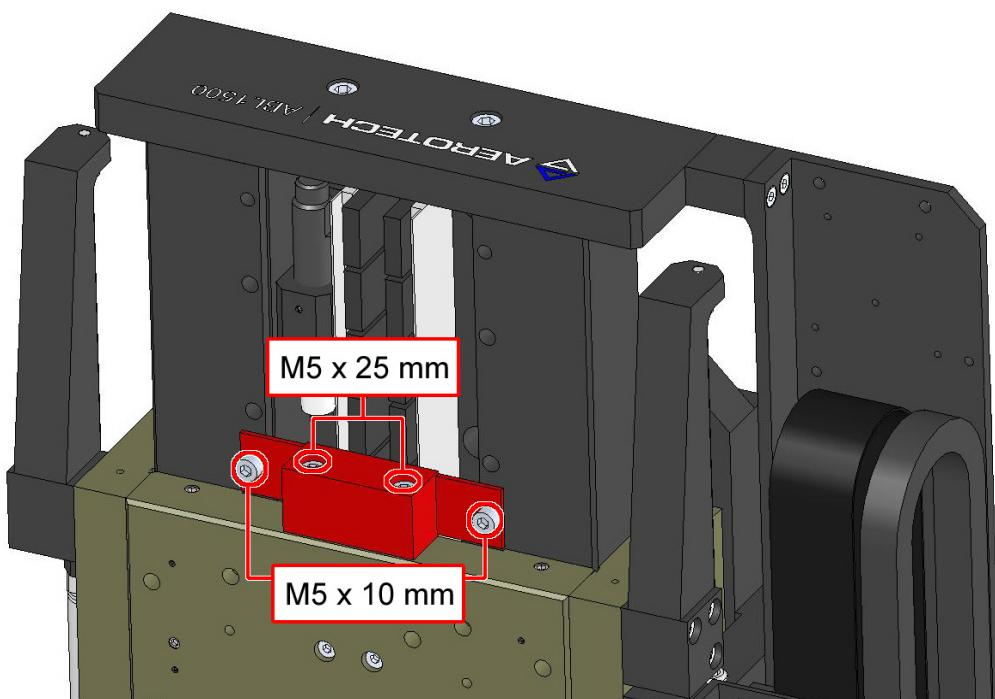

Figure 2-5: Shipping Bracket
- Loosen, but do not remove, the two M5-0.8x25mm socket head cap screws mounting the shipping bracket to the end of the carriage (Figure 2-5). Loosen the screws by two to three turns (1.6mm to 2.4mm).